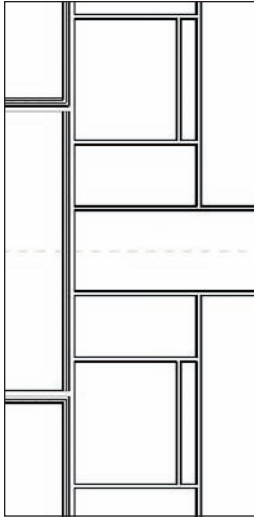

FIGURE 2.38 Both the Men's and Women's lavatories. The actual rooms will be added in Chapter 15, "Creating Room and Area Plans"
3. After you draw in the lavatory walls, mirror the walls to the other side of the building, as shown in Figure 2.38.